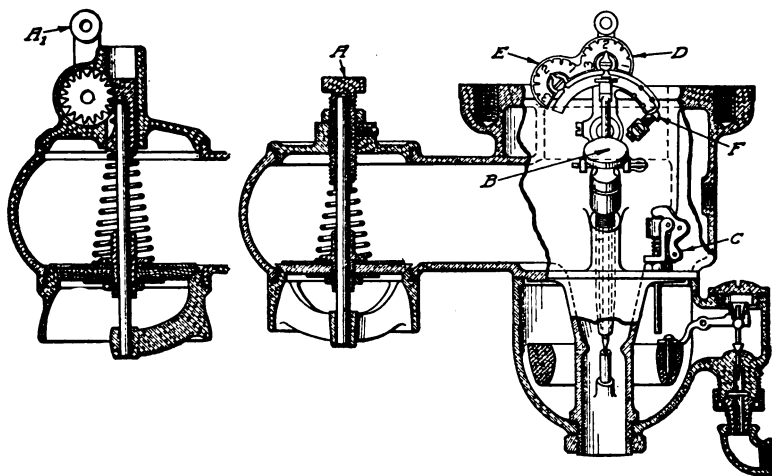

Fig. 110. Section through Schebler Carburetor, Model "L"
*Adjustment of Model "L."* It will be noted in Model "L," shown in Fig. 110, that the needle valve sets at an angle in the mixing chamber. The upper expansion of this chamber forms the vaporizing chamber of long rectangular shape with rounded ends and has the auxiliary air valve located at the other end of it. The vaporized mixture passes upward, by the throttle, and into the manifold. To adjust this model, turn the screw *A* down to make sure the air valve seats firmly, then close the needle valve by turning the adjusting screw *B* to the right until it stops; but do not apply pressure. Then turn it to the left four or five complete turns and prime, or flush, the
This model is also made with a dash-control air valve, as shown separately at the left of Fig. 110. Otherwise the carburetor and adjustment are exactly the same, except that where the directions previously given above have read *A*, those dealing with the dashboard connection should read *A*1. As will be noted, the movement of this lever rotates a small gear which engages with a rack formed in the air-valve stem, so that movement of the lever gives the same result as turning the screw *A*.